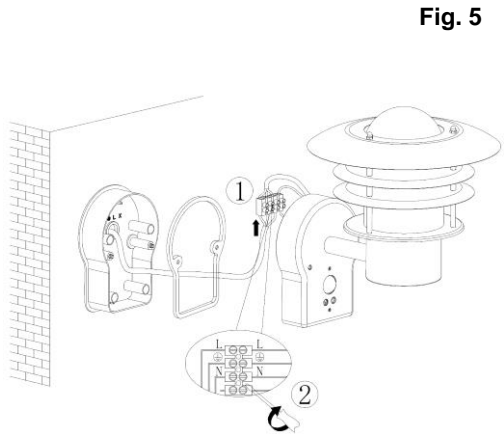

Fig. 5
8. Ensure that gasket is in position and make the electrical connections (fig. 5) - see section 'Connecting to the mains supply'.